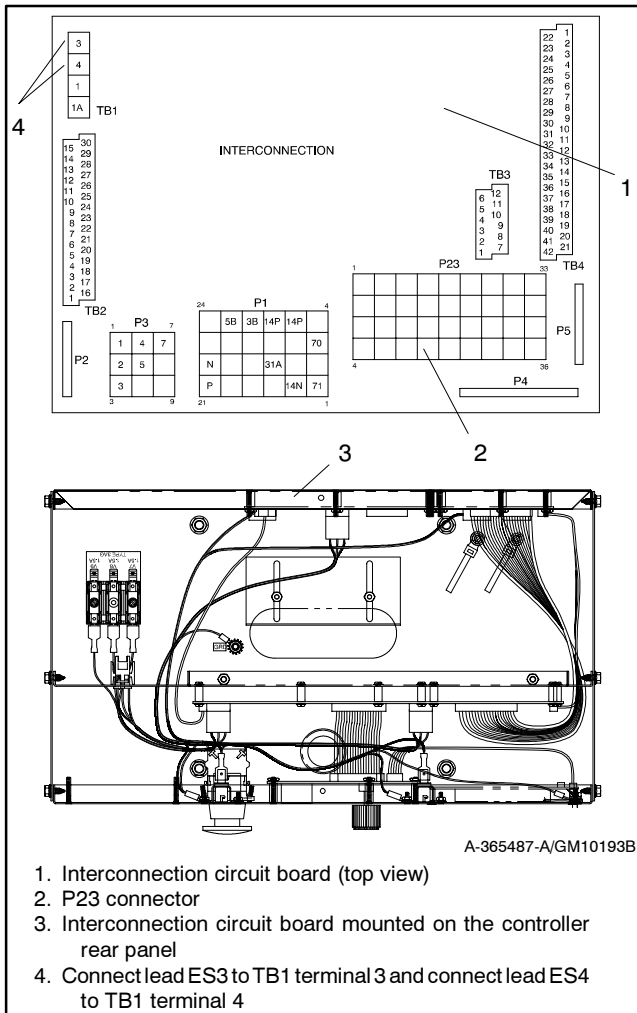

Figure 5 Attaching Wiring Connection Harness to Controller Circuit Board
- 2.6 Plug the wiring harness connector into the interconnection circuit board's P23 connector. Connect lead ES3 to TB1 terminal 3 and connect lead ES4 to TB1 terminal 4. See Figure 5. If access to the interconnection circuit board is difficult, remove the two controller panel top screws and center bottom screw and then loosen the bottom screws on each side to swing the rear controller panel down.